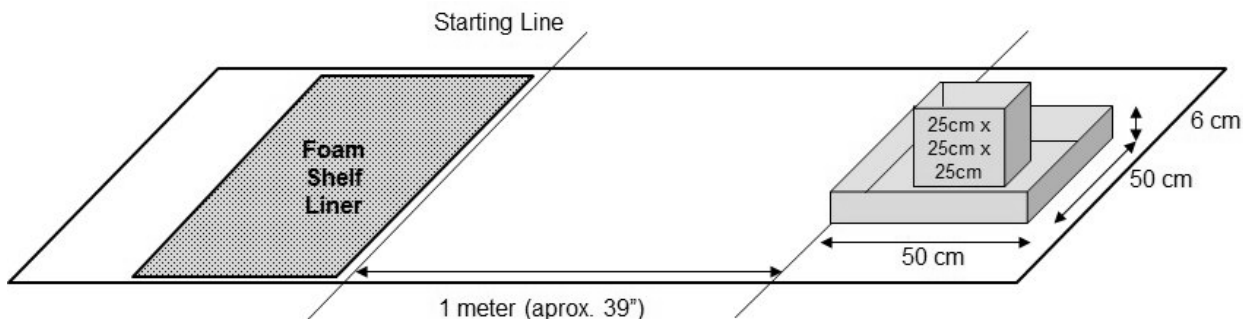

Figure 25 - Ping Pong Shot Put course layout
- a) The event setup (see Figure 25)
- (1) **No tape will be used** as a result of this new method of preventing robot slipping.